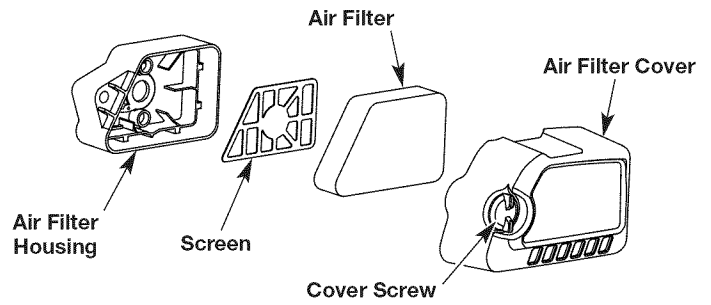

Fig. 15
1. Open the air filter cover by unscrewing the cover screw (Fig. 15).
2. Remove the air filter and the screen that sits behind it (Fig. 15).
6. Reinstall the air filter and the screen that sits behind it (Fig. 15).